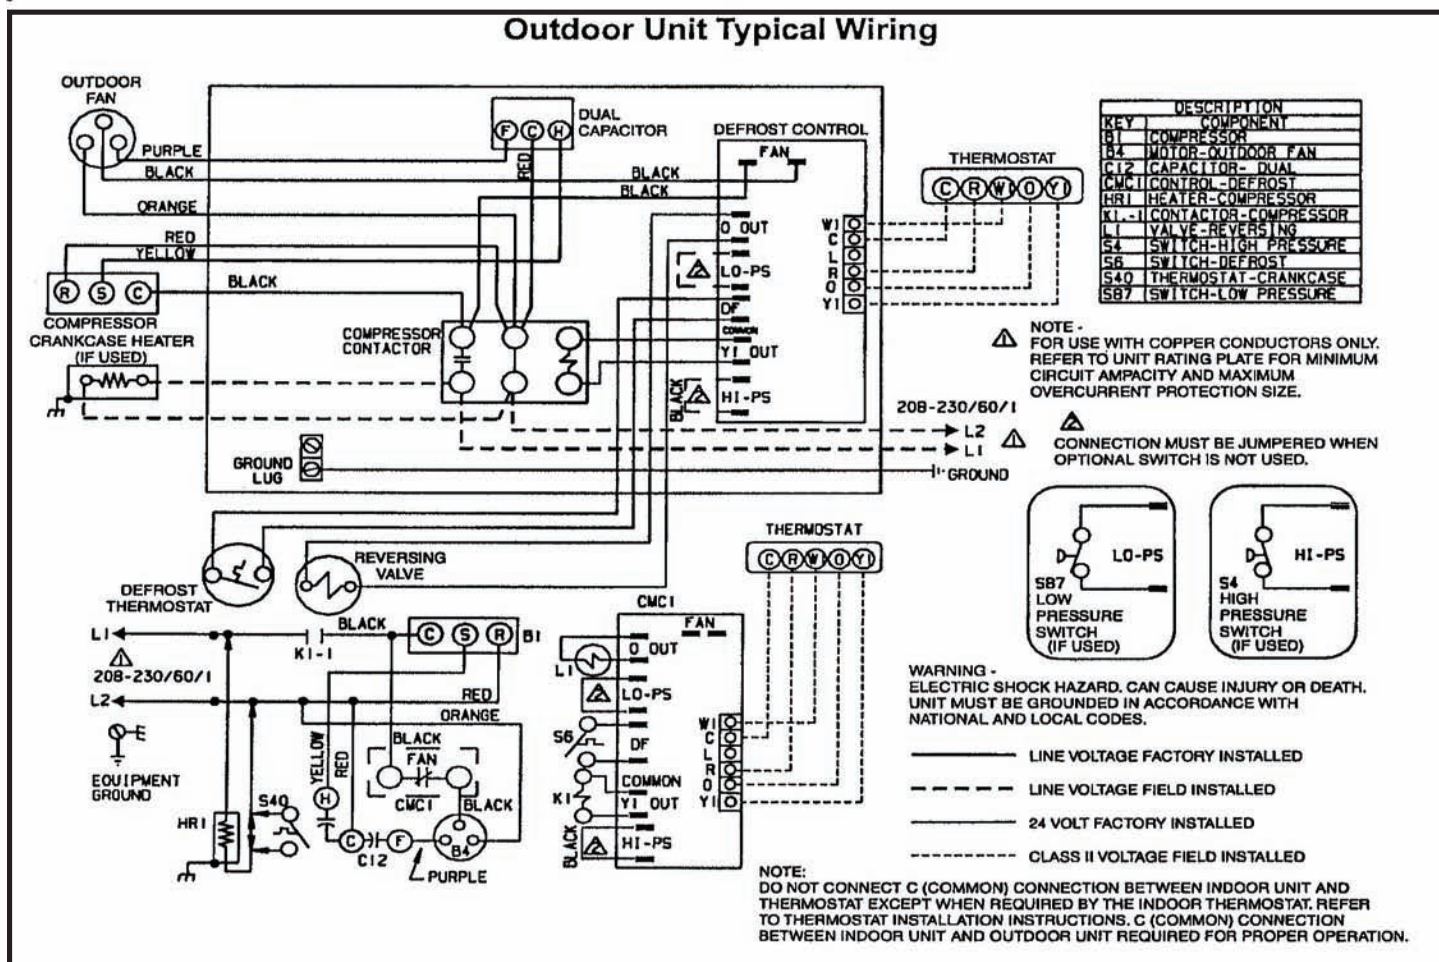

Figure 5
4. Install low voltage wiring from outdoor to indoor unit and from thermostat to indoor unit (See Figure 5).